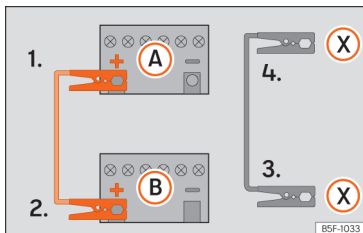

Fig. 82 Diagram of connections for vehicles with Start Stop system
- 4b. *In vehicles with a Start-stop system:* connect one end of the *black* jump lead (X) to a suitable ground terminal, to a solid piece of metal in the engine block, or to the engine block itself »» Fig. 82.
5. Connect the other end of the *black* jump lead (X) to a solid metal component bolted to the engine block or to the engine block itself of the vehicle with the flat battery. Do not connect it to a point near the battery (A).